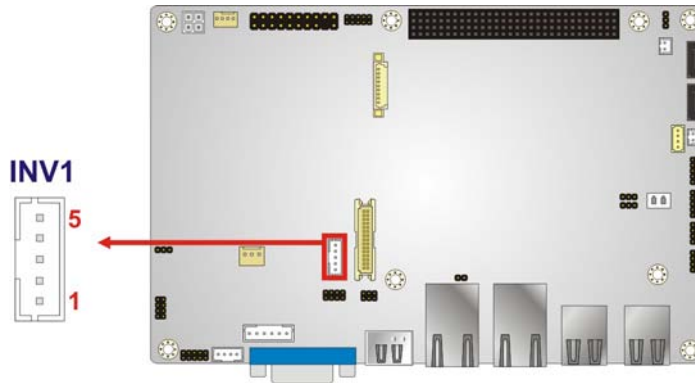

Figure 3-3: Backlight Inverter Connector Location
- CN Location: See **Figure 3-3**